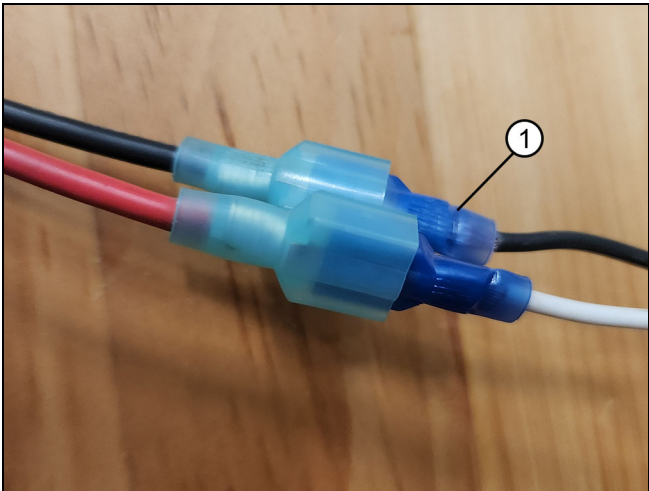

Figure 17
2. **Control Box to Motor:** the red Super Cable connects to the corresponding port on the motor. Red and black female leads from the motor to the black and white male leads from the control box. See Figure 17.